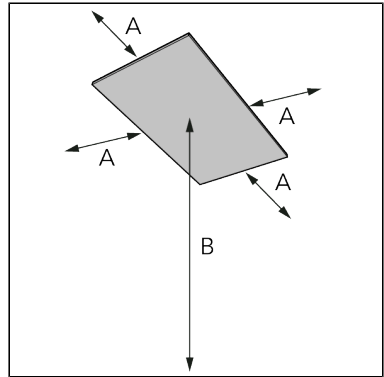

Figure 15.
2. Place the device with a minimum distance (Figure 15) of: